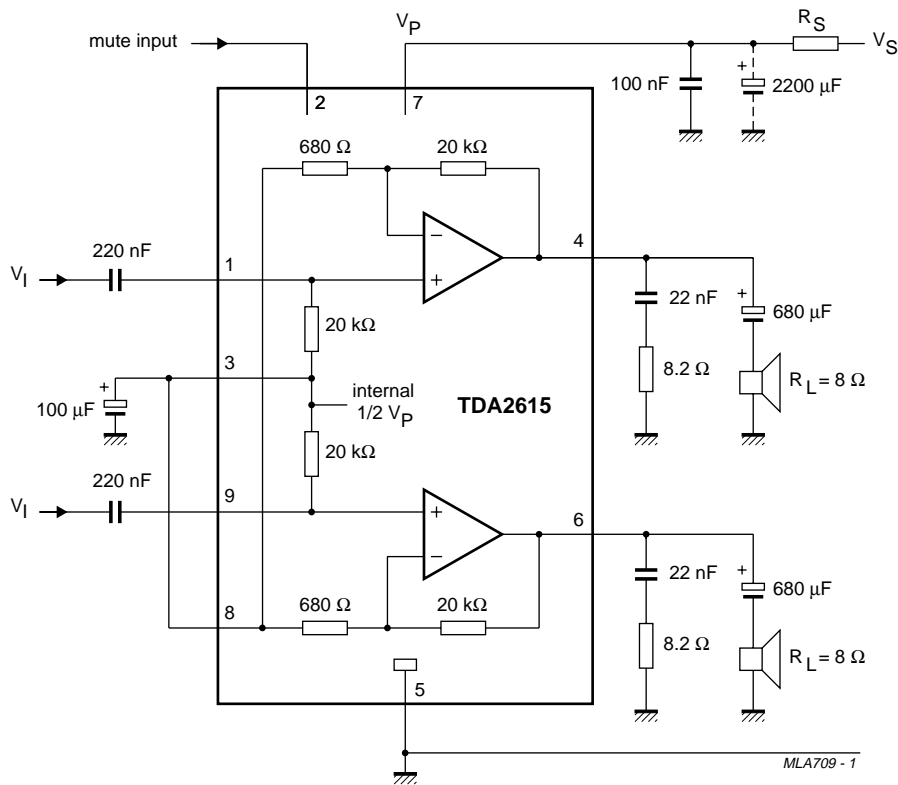

Fig.5 Test and application circuit with asymmetrical power supply.
- $V_P = 24 \text{ V}$; $R_L = 8 \Omega$; $T_{\text{amb}} = 25 \text{ }^\circ\text{C}$; $f_i = 1 \text{ kHz}$; asymmetrical power supply $I_{\text{MUTE}} < 30 \mu\text{A}$ (see Fig.5).